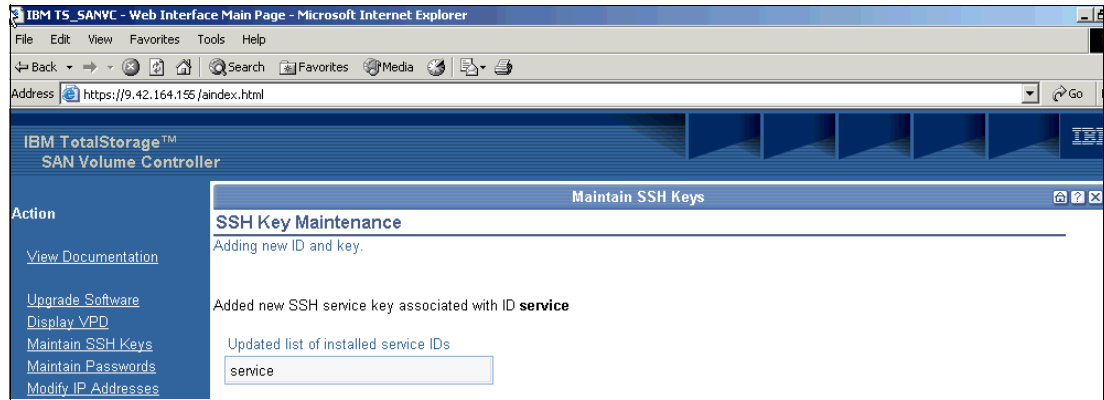

Figure 9-88 Adding SSH service key successful
3. A new panel opens and displays the message Added new SSH service key associated with ID *userid* as shown in Figure 9-88 (where *userid* is the user ID you specified).